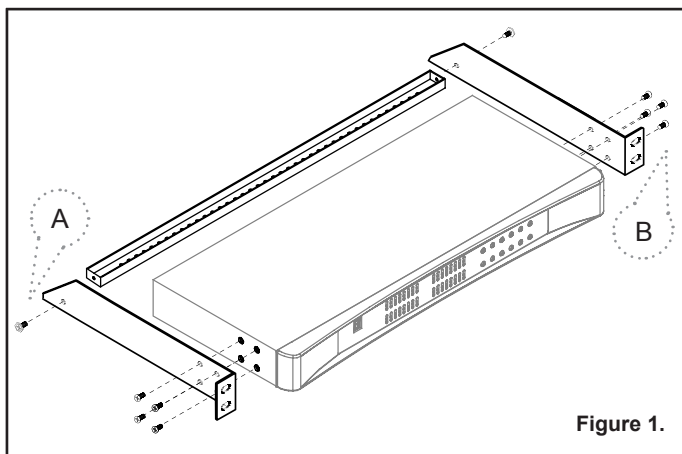

Figure 1.
- Install each bracket using screws provided shown in **Figure 1**.